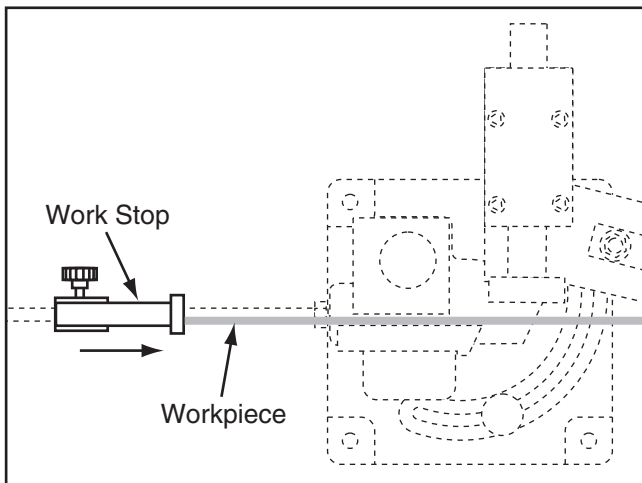

Figure 16. Using work stop.
1. Place the workpiece in the machine as needed, then slide the work stop against the end of the workpiece. Tighten the work stop knob (Figure 16).